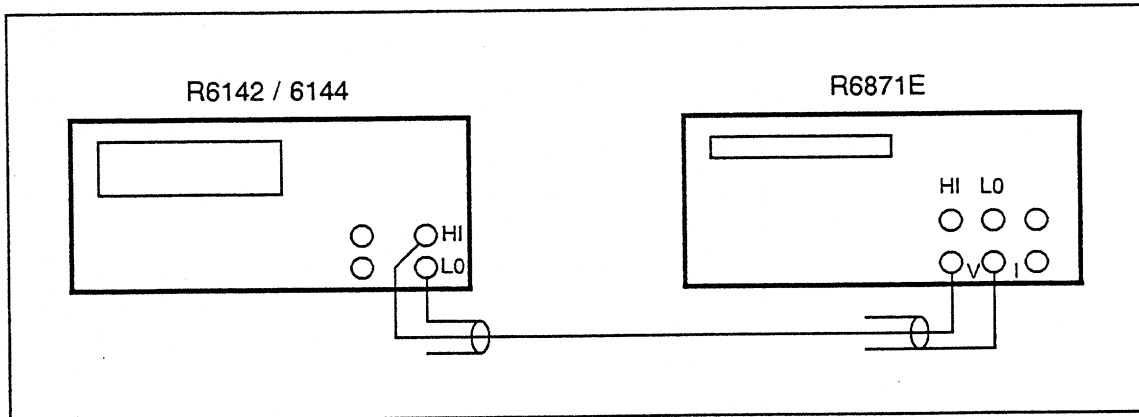

Figure 5-1 Cable Connection for Output Voltage Calibration
- ① Connect the R6142/6144 to the R6871E as shown in Figure 5-1.